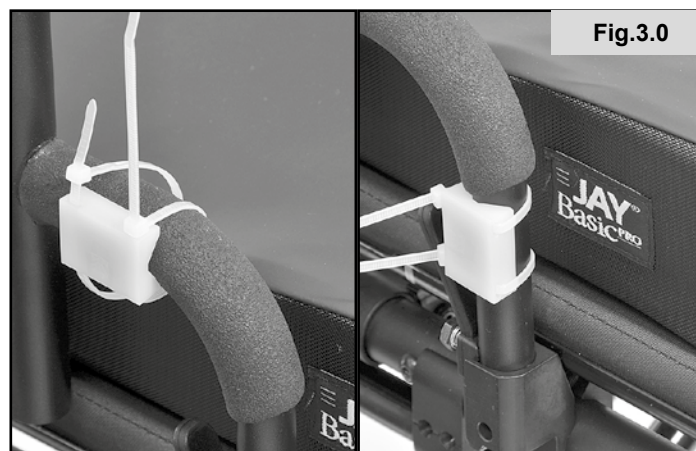

Fig.3.0
3. The supplied Switch box mount (shown in white for clarity) can be used to attach the switch box to either a vertical or horizontal tube with a diameter of 19 mm to 28 mm (.75" to 1.12"), using the supplied double sided tape and zip ties, (Fig.3.0 - 4.0).